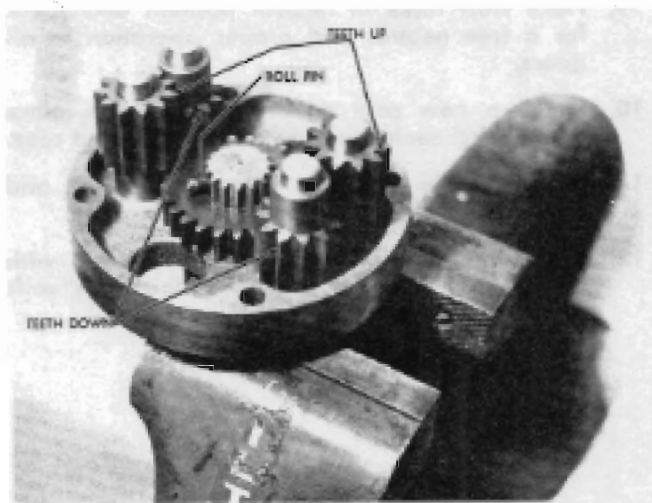

FIGURE 1
1. Early type use hollow pinions with separate shafts. See Figure 1 and 2.
1. Early type axles incorporate roll pin holes and use roll pins to secure the axle gears. See Figure 1 and 2.
5. Note position of the four (4) pinions. Adjacent pinions are installed in opposite directions, which make the position of the diagonally opposite pinions the same. See Figure 1 and 1A.
2. Install one of the axle and gear assemblies in the differential case and on the early type install the four (4) pinion shafts.
3. Install two (2) pinions with their teeth up diagonally opposite each other, and install the other two (2) pinions with their teeth down diagonally opposite each other. See Figure 1 and 1A.